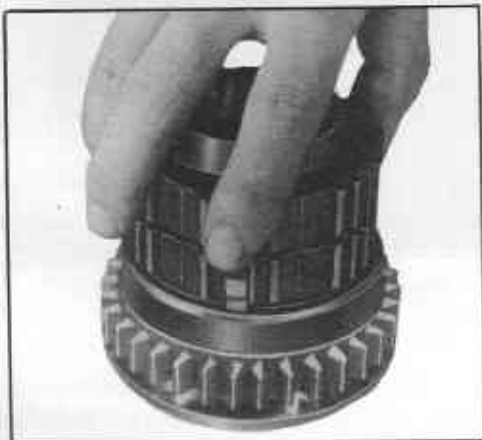

Fig. TM-30 Installing the hub to the main shaft 1st gear
2. Fit the shifting inserts and synchronizer springs in the correct position on the synchronizer hub. Assemble the synchronizer hub complete with inserts into the coupling sleeve (See Fig. TM-30).